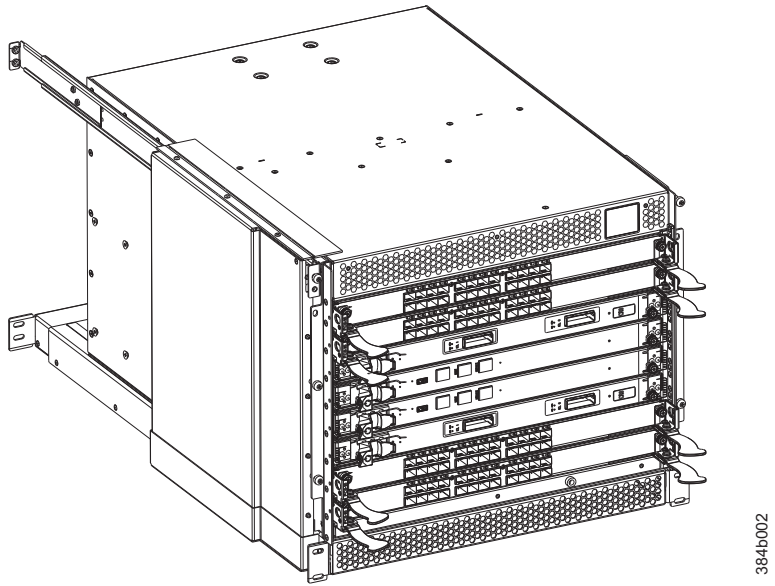

Figure 2. Port side of the SAN384B with the exhaust kit installed (sample configuration)
**Note:** Airflow in the SAN384B is from the non-port (non-cable) side to the left side of the chassis. With the port-side exhaust kit installed (see Figure 2 on page 4, the air flows out the vent on the port side of the chassis.
Figure 2 on page 4 shows the SAN384B with the port-side exhaust kit installed over the chassis exhaust vent (sample configuration). The exhaust is routed from the chassis exhaust vent through the port-side exhaust kit. The exhaust exits through the vent grill below the chassis.